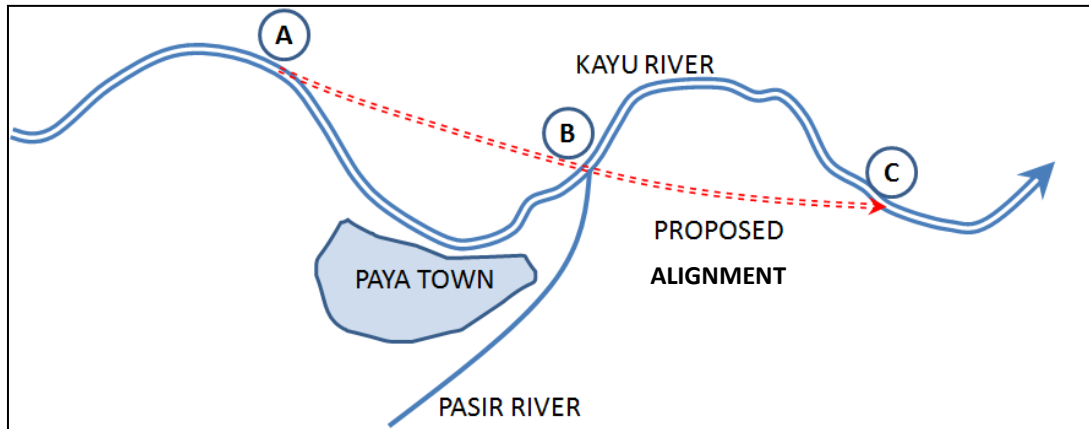

Figure 1
3. Paya Town is a flood prone area. One of the proposals to alleviate the problem is by straightening the Kayu River from Point A to Point C (**Figure 1**).